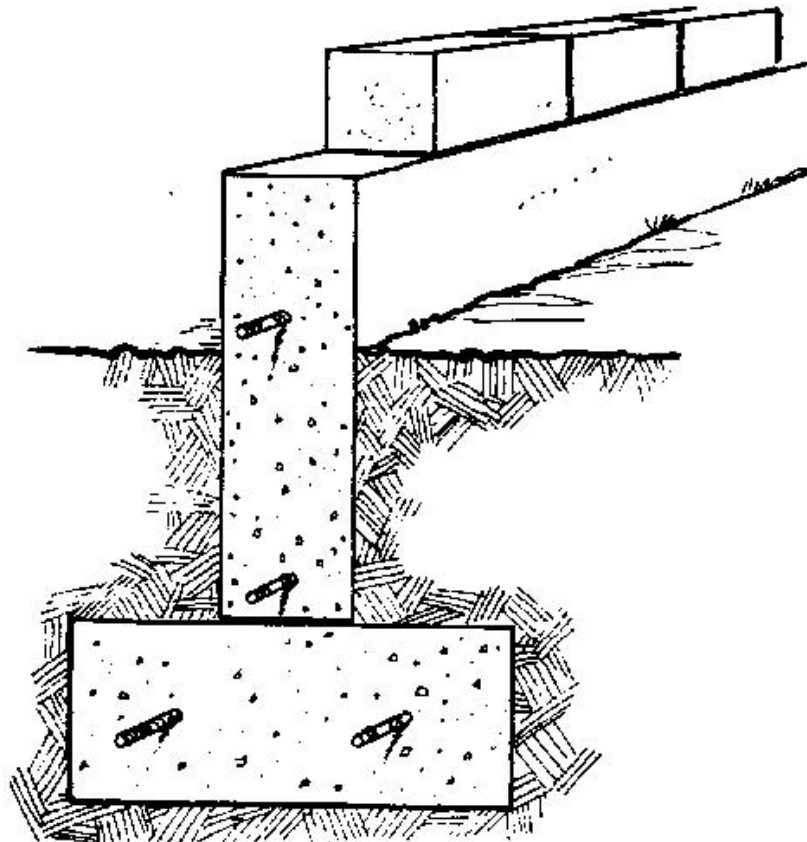

Figure 25.
**TYPES OF FOUNDATIONS** - House foundations may consist of separate *piers or footings*, which receive the load of the house through heavy beams that rest on them, or they may be *continuous footings* that run under all outside walls and load-bearing partitions. For earth walls, continuous footings are most commonly used. A *foundation wall* rests on the footing and extends upward and supports the walls. A typical continuous footing and foundation wall is shown in Figure 25. Not all such construction requires reinforcing steel.
**FOOTINGS** - Footings have three purposes: (1) to provide a solid, level base for the foundation walls; (2) to hold the weight of the house it supports on the earth so that the load will not be too great at any point for the soil to support; (3) to resist the "lifting" forces of hurricane or high winds which can tip a house over or move it off of its foundation.